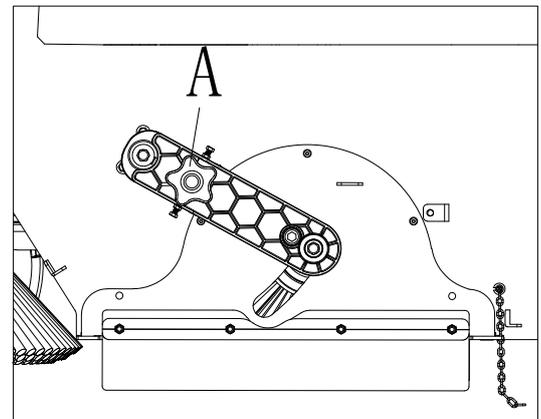
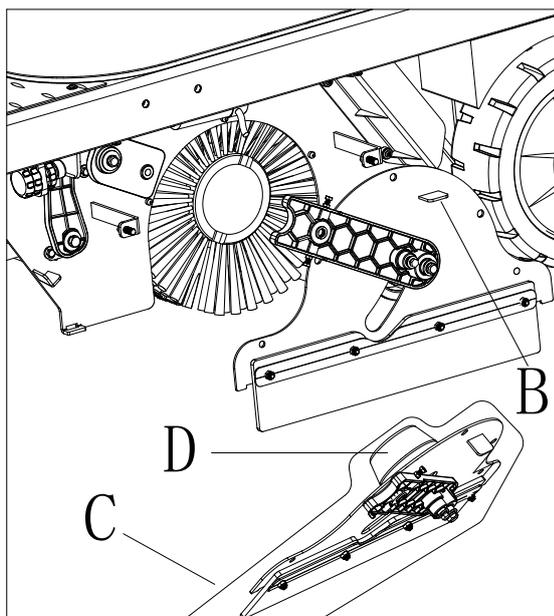

Figure 21
Figure 23
4. Unscrew the knob bolt (A, Figure 21, hold (B, Figure 23), and remove the left bracket assembly of the main broom (C, Figure 23).
9. Install the driven hub (D, Figure 23) onto the main broom.
10. Install the left bracket assembly of the main broom (C, Figure 23) and tighten the knob bolt (A, Figure 21).